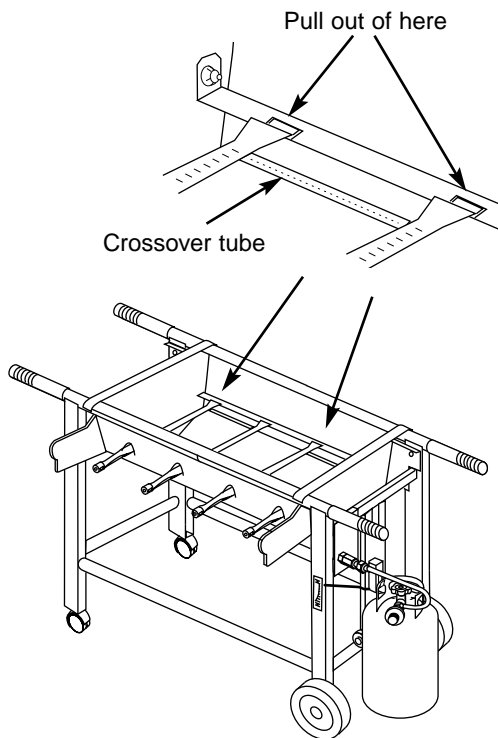

Figure 12
11. Slide the burner assembly from each Heat Zone. The left and right burners are connected by the Crossover tube. Figure 12 (a).